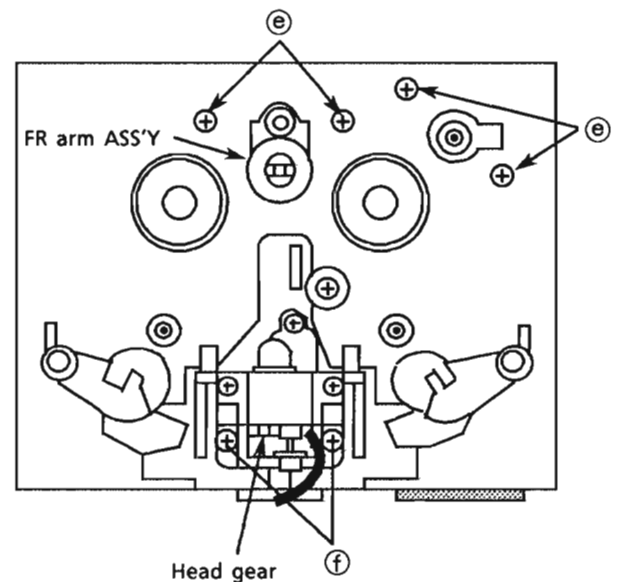

Fig 17
3. Remove the 3 screws ① fixing the head assembly (Fig 17).